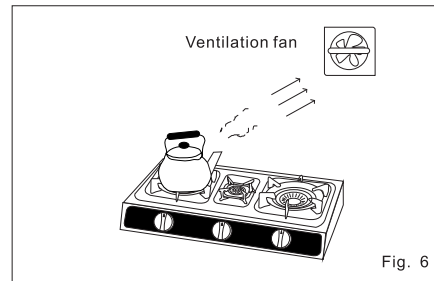

Fig. 6
- Make sure the room is well ventilated. Never use the gas cooker for long periods of time (over 10 minutes) in a small room or in a closed-off space without the ventilation, by the ventilation fan or opening the windows (Fig. 6).